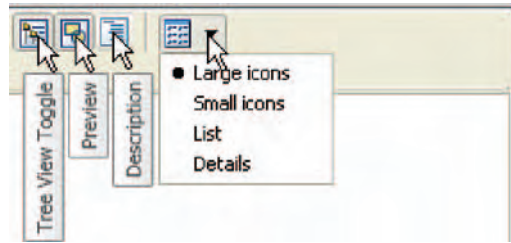

Fig. 9.11 The icons at the top-right corner of the **DesignCenter** palette
2. *Clicks* on one of the three icons at the top-right corner of the palette (Fig. 9.11) have the following results: